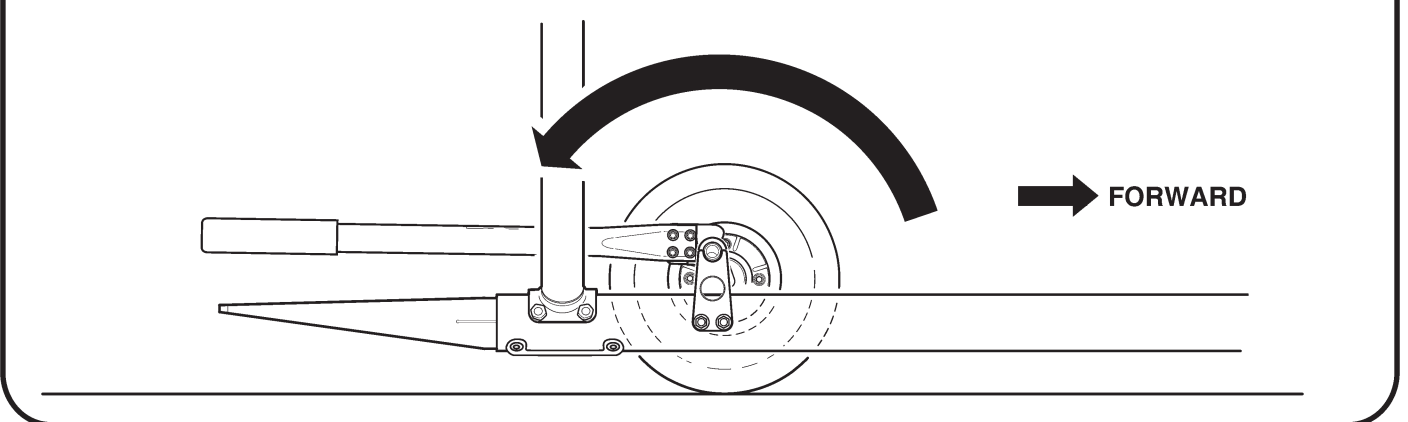

FIGURE 19-1 GROUND HANDLING WHEELS (LEFT SKID SHOWN)
1. Refer to Figure 19-1. Hold ground handling wheel assembly outboard of skid with handle left, wheel right, and spindle pointed inboard. Insert spindle completely into skid-mounted support, then pull handle in rightward arc (raises helicopter) until handle is in locked position, parallel with the skid.
1. Refer to Figure 19-1. Pull ground handling wheel handle in leftward arc (lowers helicopter) until handle is in unlocked position, parallel with the skid. Remove spindle from skid-mounted support and remove wheel assembly.